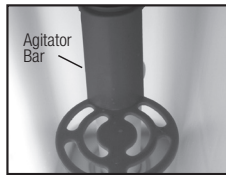

Figure 1
2) Reach into tank fill opening and remove agitator bar from pressure chamber body (Figure 1).